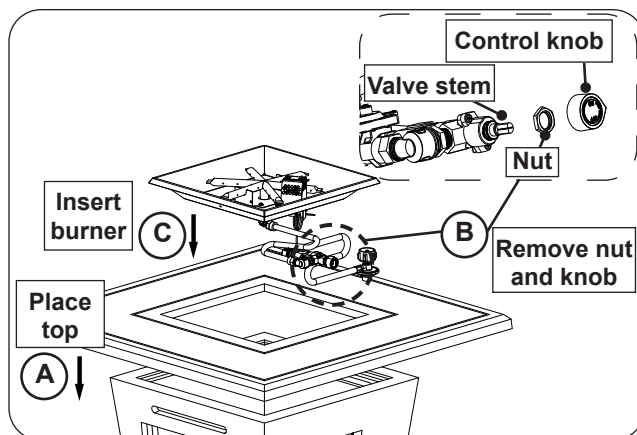

Fig. 27-2 Place top and burner
3. **Carefully** place the top on the unit (see Fig. 27-2, A).
4. Locate the valve and burner assembly. Remove the control knob. Use a 20mm socket to remove the nut attached to the valve stem. See Fig. 27-2, B.
Then drop the valve and burner assembly into the opening in the center of the firetable top, with the two burner pan holes facing toward the door (see Fig. 27-2, C).